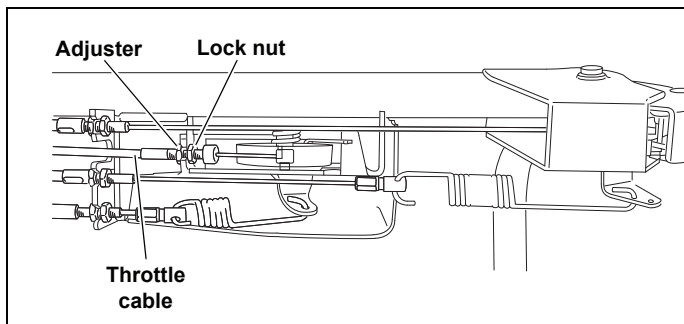

Fig. 5-6
2. If adjustment is necessary, adjust by turning the adjuster and loosening the lock nut on the throttle cable. Fig. 5-6
3. Set the adjuster to the optimal position and tighten the lock nut. Fig. 5-6